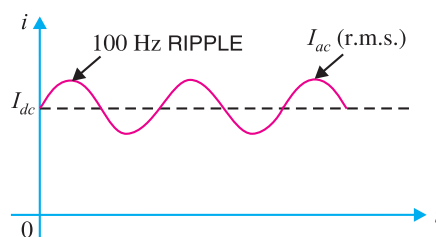

Fig. 6.39
**Mathematical analysis.** The output current of a rectifier contains d.c. as well as a.c. component. The undesired a.c. component has a frequency of 100 Hz (*i.e.* double the supply frequency 50 Hz) and is called the *ripple* (See Fig. 6.39). It is a fluctuation superimposed on the d.c. component.